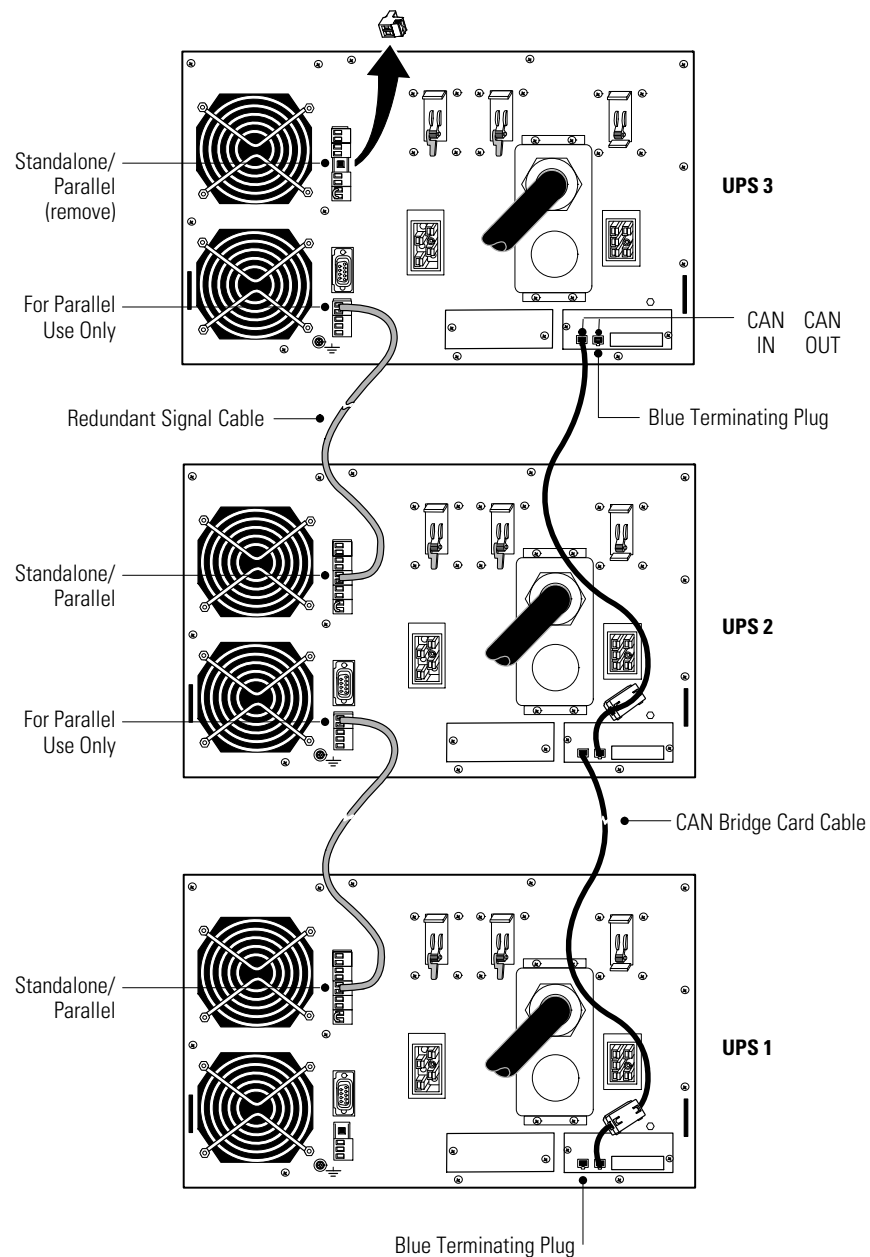

Figure 69. Typical CAN Bridge Card and Redundant Signal Wiring
- 10.** Verify that a blue terminating plug is installed in the CAN IN port on the first UPS (UPS 1 in Figure 69) and a blue terminating plug installed in the CAN OUT port on the last UPS (UPS 3 in Figure 69):
- 11.** If not already installed, using the supplied connectors, install a CAN Bridge Card cable between each UPS as shown in Figure 69, connecting the CAN OUT port on one UPS to the CAN IN port on the next UPS.
NOTE You can configure the parallel system with UPS 1 at the bottom of the rack (as shown in Figure 69) or at the top of the rack.
- 13.** Install a redundant signal cable between the For Parallel Use Only and Standalone/Parallel terminals on each UPS as shown in Figure 69.
- 14.** Remove the Standalone/Parallel terminal block connector from the last UPS (UPS 3 in Figure 69).